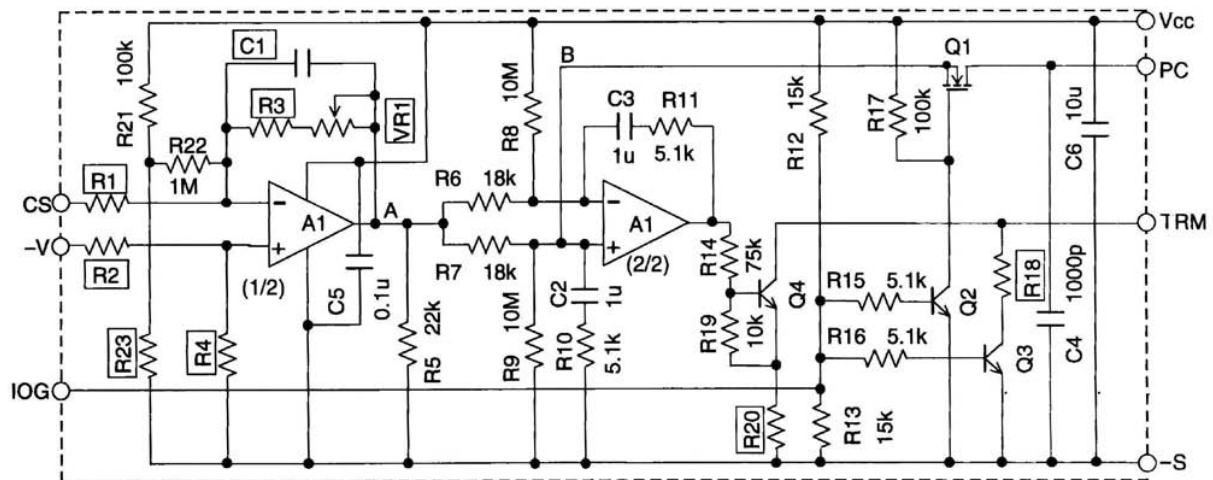

Figure3-2 Control Circuit for Parallel Operation
Basic circuit connection is shown in Figure3-1. For control circuit of parallel operation, individually connect a circuit shown in Figure3-2 to each PH300S, 600S series of power module of parallel operation.
(2) Terminal Explanation of Figure3-2
For CS terminal voltage is a small voltage in negative polarity, Op-Amp A1 (1/2) is amplifier inverting shown as Figure3-2. For all of PH modules to be in parallel operation, VR1 shall be adjusted to equalize with the voltage at A point at full load. Setting voltage of A point is 3V to 5V, and the setting accuracy is within ±2%. Voltage adjustment of A point can be adjusted with PC terminal of open circuit.
For choosing capacitor(s), refer to values expressed in Figure3-2 and values for each component shown in Table3-2. Use film capacitor or ceramic capacitor which has good temperature characteristics.
For choosing capacitor(s), refer to values expressed in Figure3-2 and values for each component shown in Table3-2. The tolerance shall be less than ±5% .